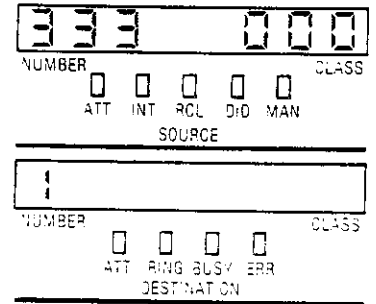

Fig. 322-1
- DESTINATION display shows room status code (and period if maid in room) (See Fig. 322-1 and Table 322-1)
- DESTINATION display changes to read digit "1" for room status (Fig. 322-1)